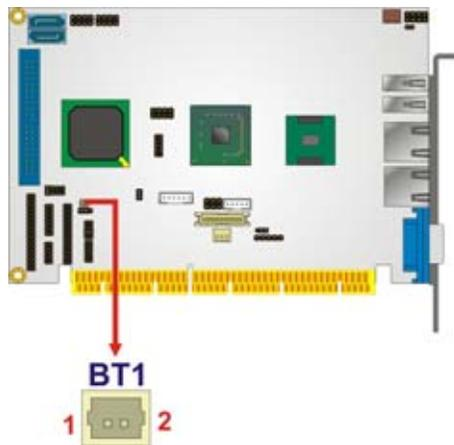

Figure 3-6: Battery Connector Location
- CN Location:** See Figure 3-6